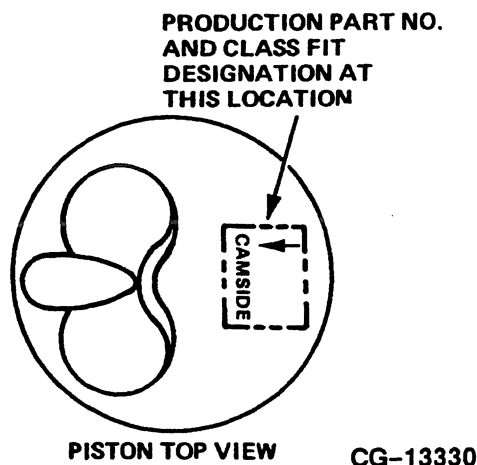

Figure 5.2. Piston Identification
1. The piston is best identified by the production part number which appears on top of the piston as shown in Figure 5.2.